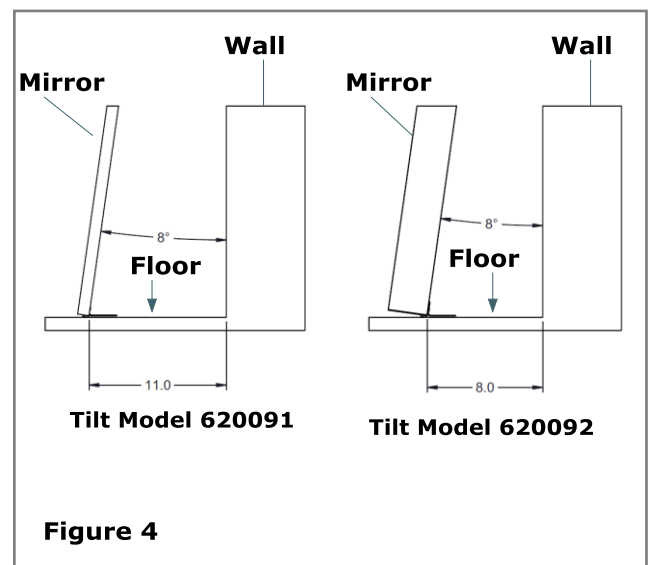

Figure 4
3. Depending on the mirror size height being installed, position the mirror at approximately 8 degrees from the mirror to the wall. Stylmark recommends between 8" to 11" from the wall to the mirror at the floor. **(See Figure 4)**